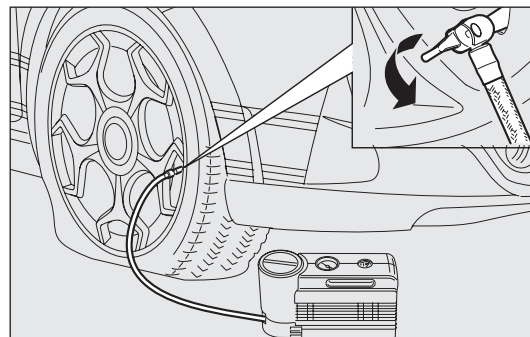

fig. 132
- ☐ after driving for about 10 minutes, stop and check the tyre pressure fig. 132 again; remember to put the handbrake on;